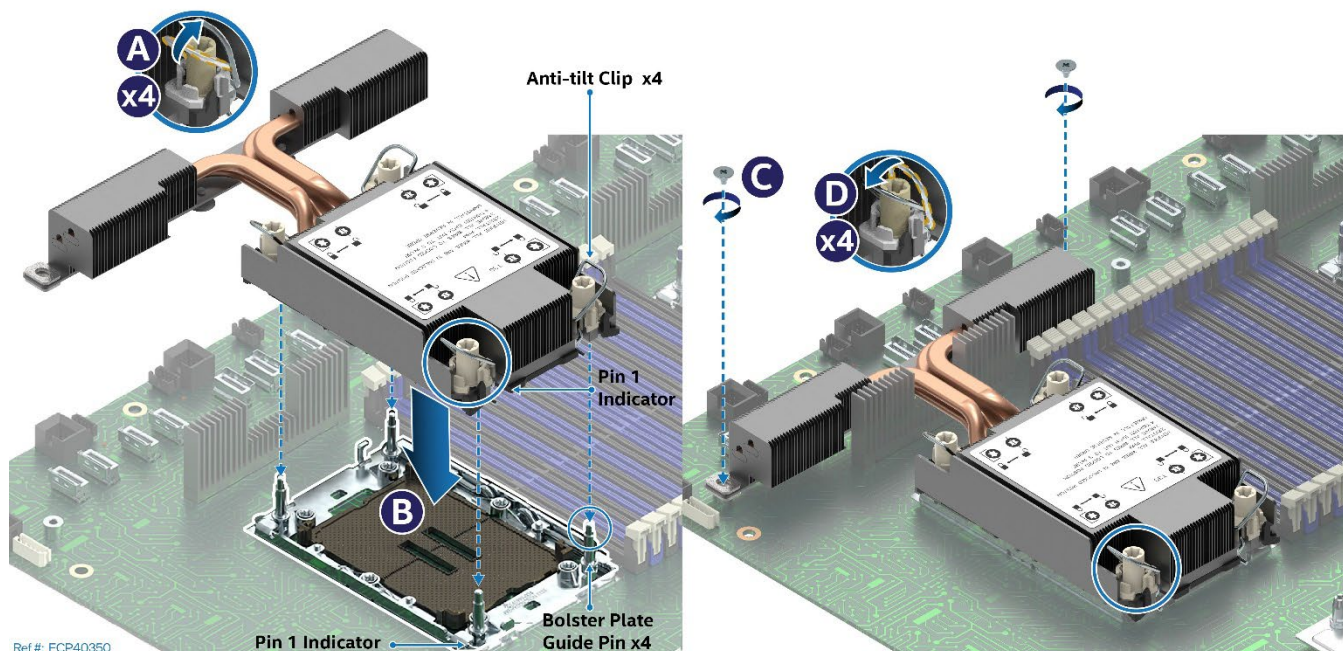

Figure 96. PHM Installation onto Server Board
- Set anti-tilt wires on all four corners of the heat sink to the inward position (see Letter A in Figure 96).